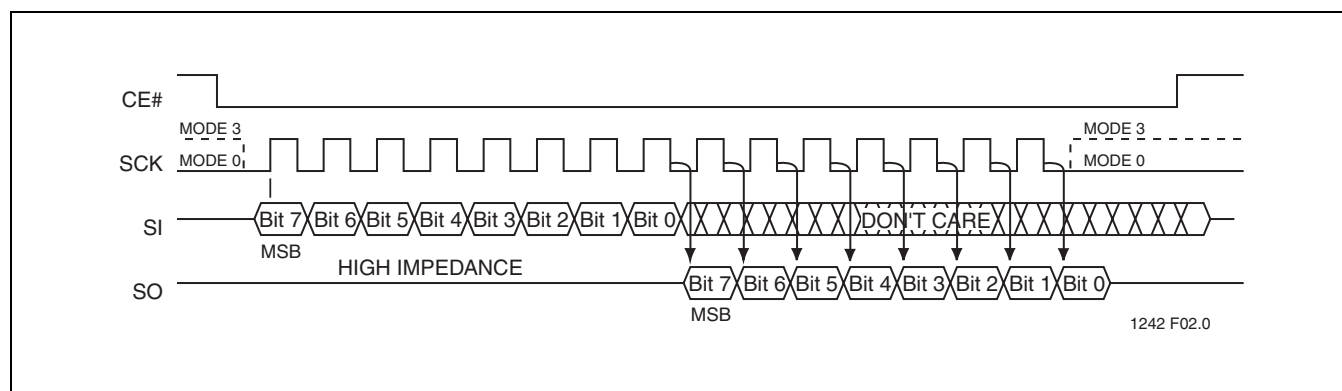

FIGURE 2: SPI PROTOCOL
The SST25LF020A/040A supports both Mode 0 (0,0) and Mode 3 (1,1) of SPI bus operations. The difference between the two modes, as shown in Figure 2, is the state of the SCK signal when the bus master is in Stand-by mode and no data is being transferred. The SCK signal is low for Mode 0 and SCK signal is high for Mode 3. For both modes, the Serial Data In (SI) is sampled at the rising edge of the SCK clock signal and the Serial Data Output (SO) is driven after the falling edge of the SCK clock signal.